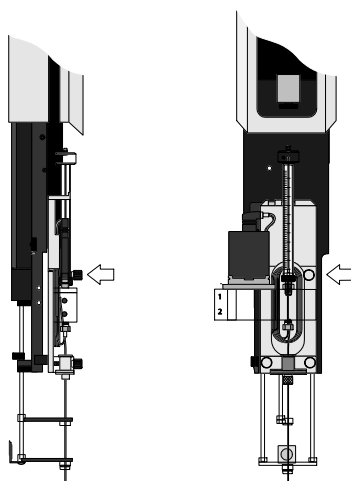

Figure 18. Fixing the Syringe Holder to the Syringe Slider.
3. Tighten the knurled screw to fix the Holder Assembly to the syringe slider (see Figure 18);